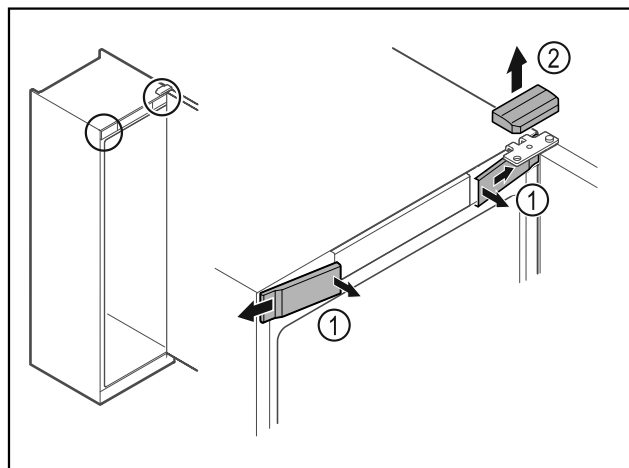

Fig. 8 *
- Unlatch the front covers Fig. 8 (1) on the inside and remove them sideways.*
- Lift off the upper cover Fig. 8 (2).*